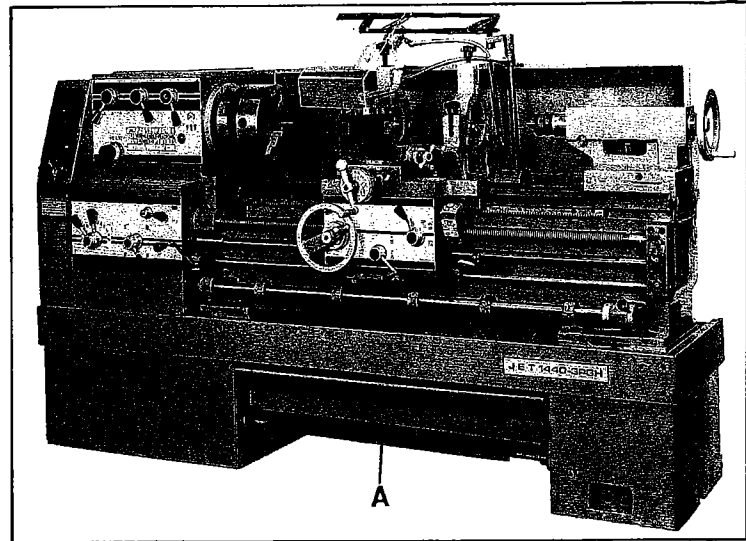

Fig. 20
19. **Foot Brake** (A, Fig. 20) - located between stand pedestals. Depress to stop all lathe functions.